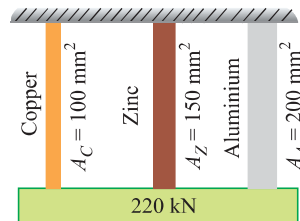

Fig. 4.16
- Three wires made of copper, zinc and aluminium are of equal lengths and have cross-sectional areas of 100, 150 and 200 square mm respectively. They are rigidly connected at their ends as shown in Fig. 4.16. If this compound member is subjected to a longitudinal pull of 220 kN, estimate the load carried on each wire. Take $E_C = 130 \text{ GPa}$, $E_Z = 100 \text{ GPa}$ and $E_A = 80 \text{ GPa}$. [Ans. $P_C = 65 \text{ kN}$, $P_Z = 75 \text{ kN}$, $P_A = 80 \text{ kN}$]